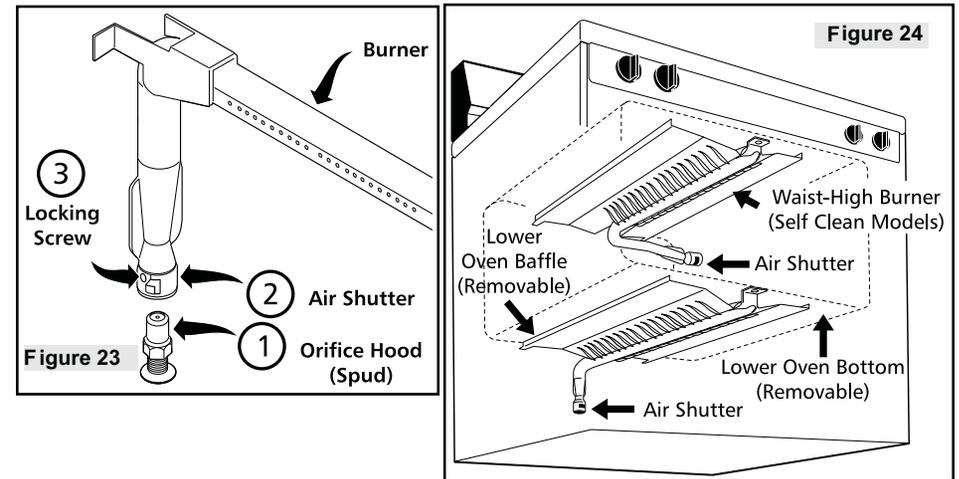

Figure 24
- B. If adjustment to the air shutter is necessary, locate the broiler burner air shutter (figure 24), loosen shutter lock screw, and adjust to obtain optimum flame. This will normally be completely open for LP/Propane gas. If the flame is yellow in color, increase the air shutter opening size. If the flame is a distinct blue, but lifting away from the burner, reduce the air shutter opening size. Tighten the shutter set screw.